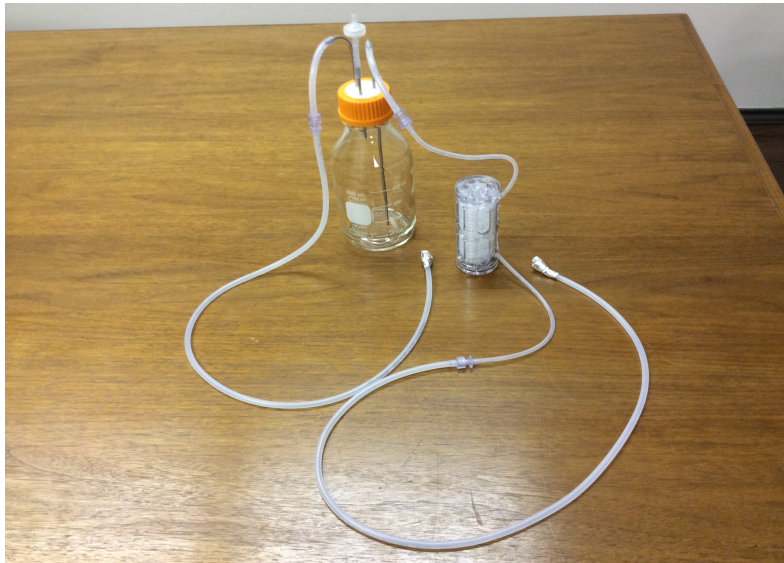

Figure 4
8. Autoclave components at 120°C for 20 minutes. **CAUTION: *Higher temperatures and longer autoclave times must be avoided as these can damage components and void the warranty.*** The entire flow loop may be assembled and autoclaved as a unit. It is recommended that the free ends of the loop with plastic fittings be wrapped with aluminum foil to protect them from contamination while the system is being prepared for culturing. Figure 4